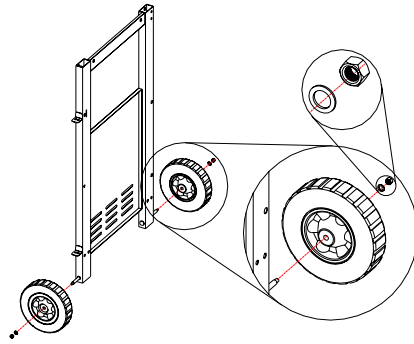

Figure 1
1. Attach the wheels to left side panel using (2) $\frac{1}{4}$ " hex nuts with (2) $\frac{1}{4}$ " flat washers. (Fig.1)